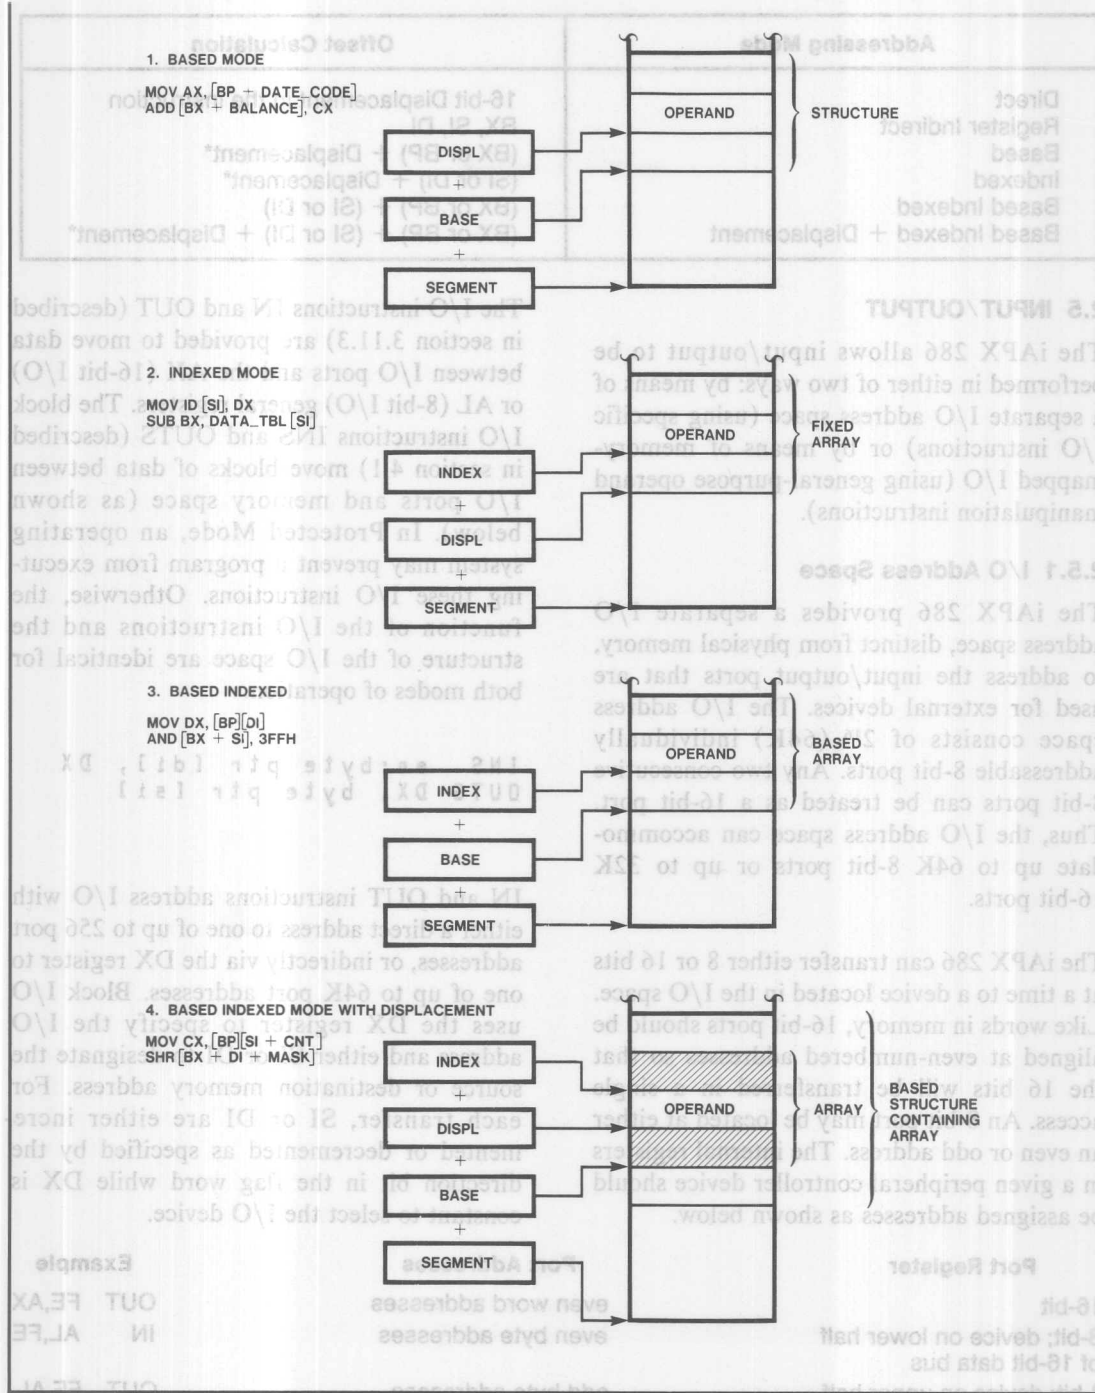

Figure 2-13. Complex Addressing Modes
The following four modes are used for accessing complex data structures in memory (see figure 2-13):
- **Based Mode.** The operand is located within the selected segment at an offset computed as the sum of the displacement and the contents of a base register (BX or BP). Based mode is often used to access the same field in different copies of a structure (often called a record). The base register points to the base of the structure (hence the term “base” register), and the displacement selects a particular field. Corresponding fields within a collection of structures can be accessed simply by changing the base register. (See figure 2-13, example 1.)
array whose starting location is fixed at translation time). The displacement locates the beginning of the array, and the value of the index register selects one element. Since all array elements are the same length, simple arithmetic on the index register will select any element. (See figure 2-13, example 2.)
- **Based Indexed Mode.** The operand is located within the selected segment at an offset computed as the sum of the base register's contents and an index register's contents. Based Indexed mode is often used to access elements of a dynamic array (i.e., an array whose base address can change during execution). The base register points to the base of the array, and the value of the index register is used to select one element. (See figure 2-13, example 3.)
- **Based Indexed Mode with Displacement.** The operand is located with the selected segment at an offset computed as the sum of a base register's contents, an index register's contents, and the displacement. This mode is often used to access elements of an array within a structure. For example, the structure could be an activation record (i.e., a region of the stack containing the register contents, parameters, and variables associated with one instance of a procedure); and one variable could be an array. The base register points to the start of the activation record, the displacement expresses the distance from the start of the record to the beginning of the array variable, and the index register selects a particular element of the array. (See figure 2-13, example 4.)